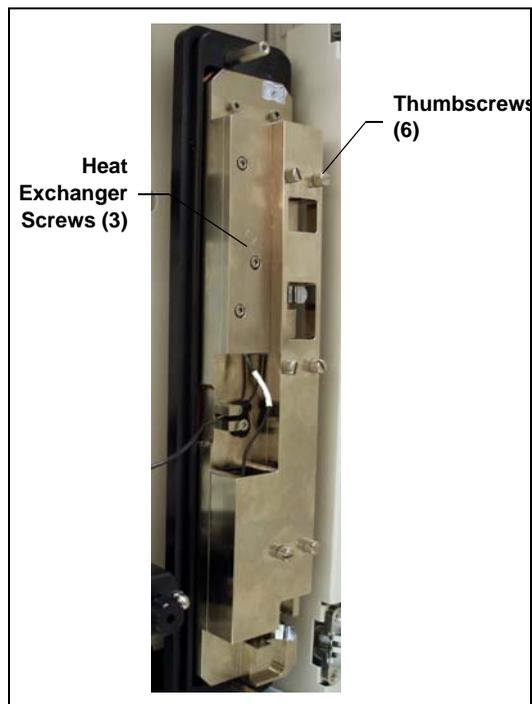

Figure 5-17. Dionex ICS-1100 Column Heater Cover Removed
5. Unscrew the six thumbscrews on the top metal plate (see Figure 5-17) and remove the plate.